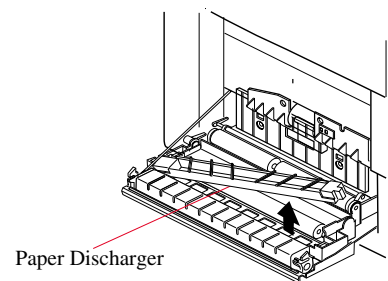

Fig. 5-23
5.3.5 Replacement of the Paper Discharger (see Fig. 5-23)
3. Install new paper discharger in the transfer unit (see Fig. 5-23).